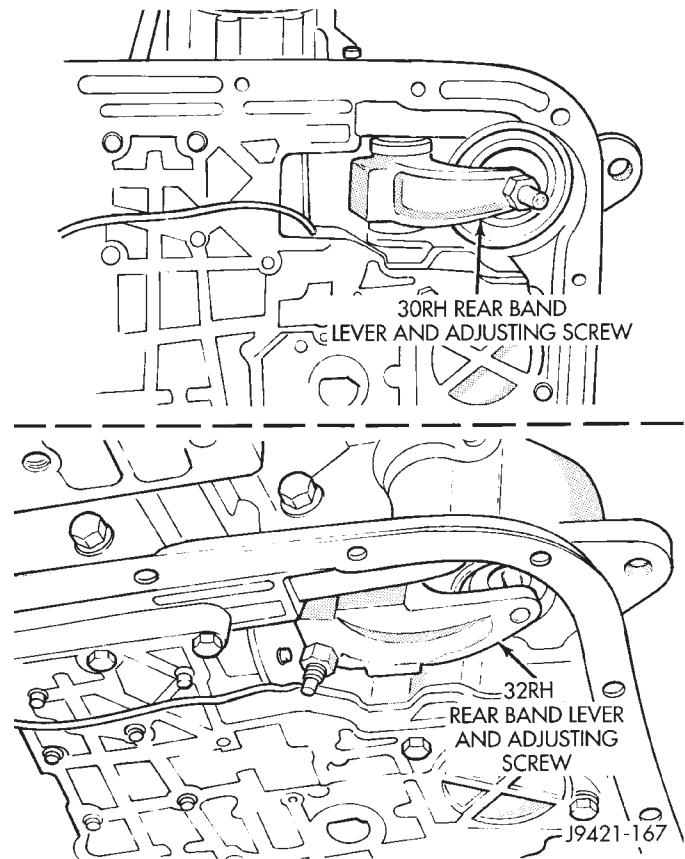

Fig. 181 Rear Band Adjustment Screw Location
- (1) Raise vehicle.
- (2) Remove transmission oil pan and drain fluid.
- (3) Loosen band adjusting screw locknut 5-6 turns. Be sure adjusting screw turns freely in lever.
- (4) Tighten adjusting screw to 5 N·m (41 in. lbs.) for the 30RH and 8 N·m (72 in. lbs.) torque for the 32RH (Fig. 181).
(5) Back off adjusting screw 7 turns for the 30RH and 4 turns for the 32RH.
(6) Hold adjusting screw in place and tighten locknut to 34 N·m (25 ft. lbs.) torque.
(7) Position new gasket on oil pan and install pan on transmission. Tighten pan bolts to 17 N·m (13 ft. lbs.) torque.
(8) Lower vehicle and refill transmission with Mopar® ATF Plus 3, Type 7176, fluid.